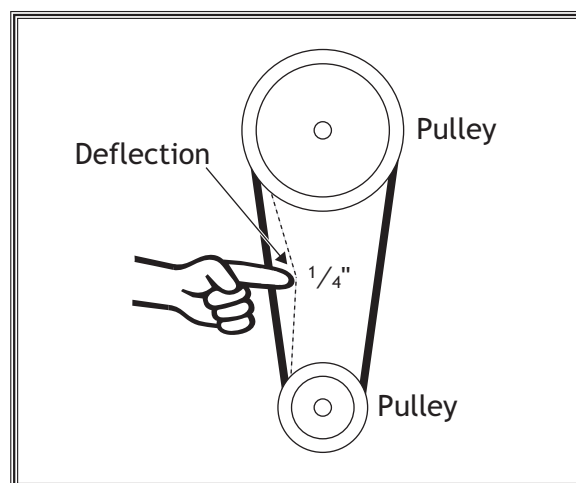

Figure 50. Belt deflection.
2. Push the center of each V-belt (Figure 50), using moderate force. Deflection should be about $\frac{1}{4}$ ". If deflection is more than $\frac{1}{4}$ ", tension that V-belt (Page 39) before doing Step 4.